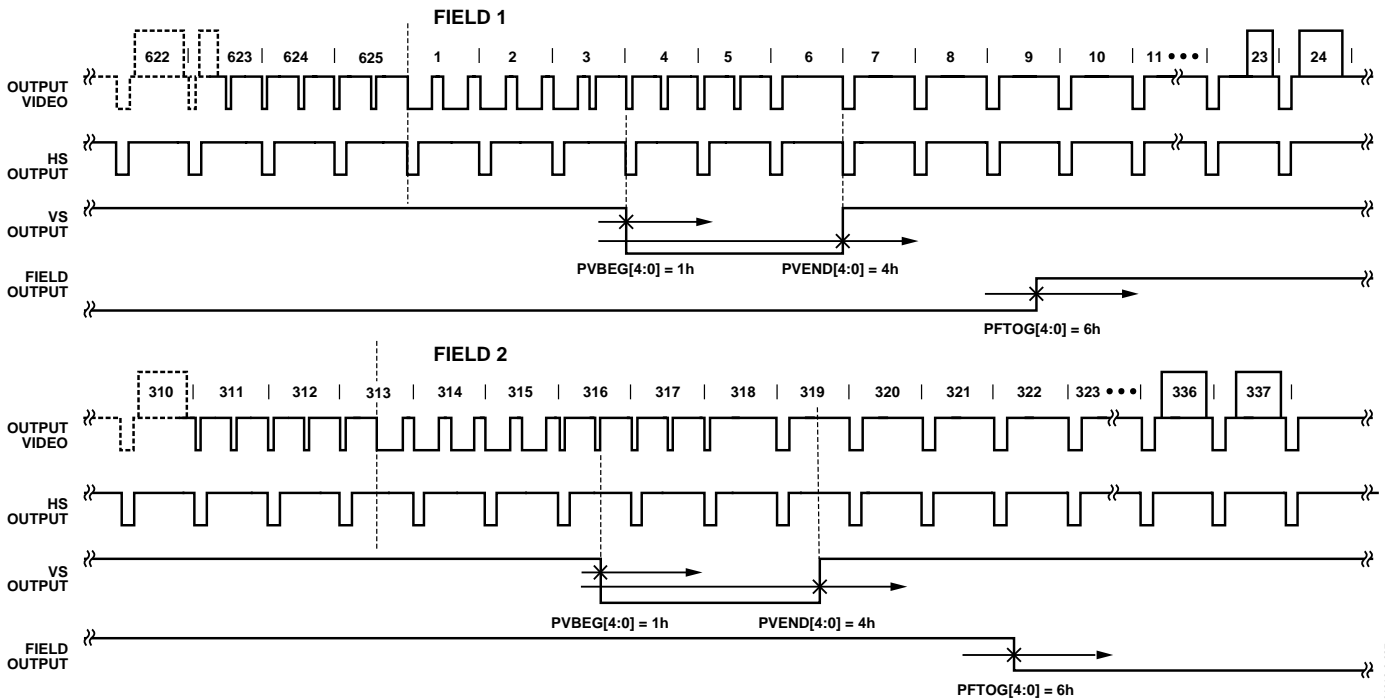

Figure 26. PAL Typical VSync/Field Positions Using Register Writes in Table 122
**Table 122. Recommended User Settings for PAL (see Figure 26)**